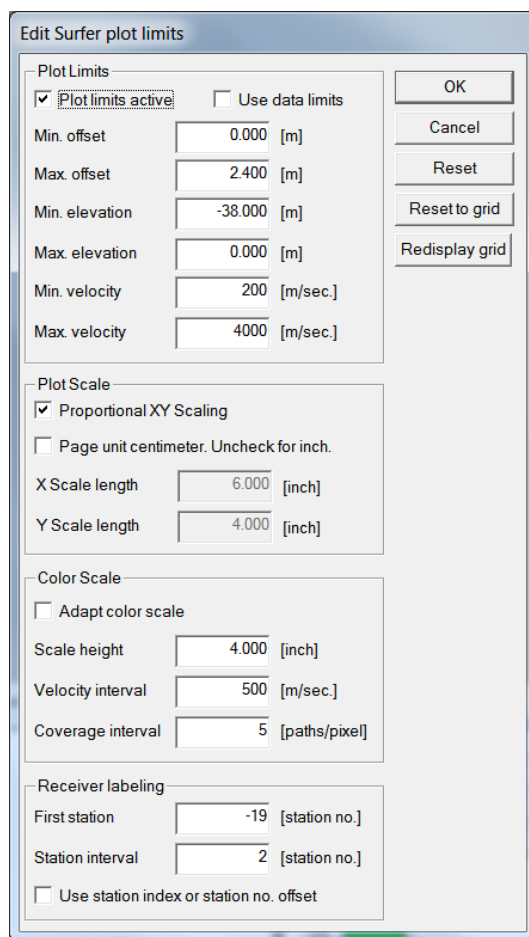
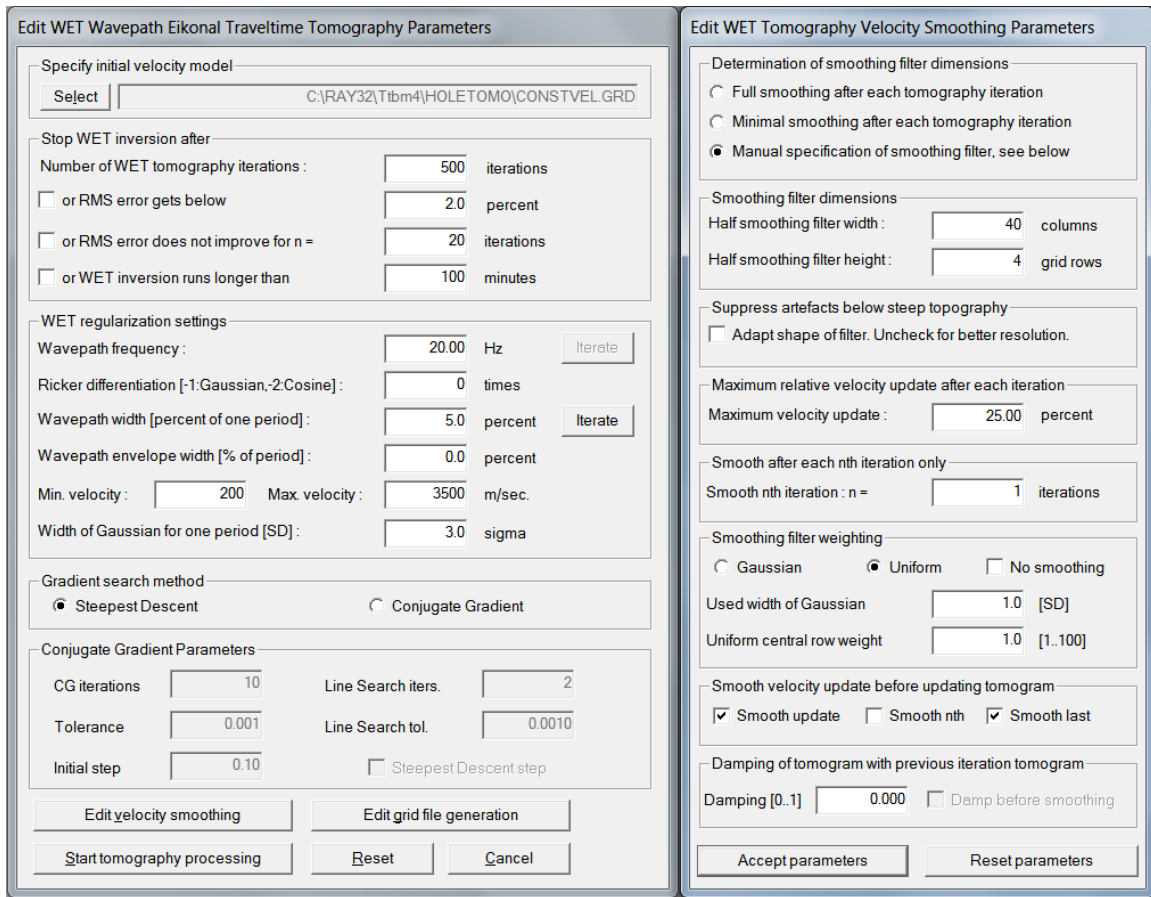

Fig. 10 : *Grid|Surfer plot Limits* dialog. Check box ***Limits active*** and ***Proportional XY scaling***. Edit as shown. Click *OK* button.
Fig. 12 : WET Tomo|Interactive WET main dialog (left). Edit velocity smoothing (right).
- edit *Grid|Surfer plot Limits* as in Fig. 10
- select *WET Tomo|Interactive WET*. Edit main dialog as in Fig. 12 left.
- click button *Edit velocity smoothing*. Edit as in Fig. 12 right. Click button *Accept parameters*.
We set WET **wavepath frequency** to 20Hz and WET **wavepath width** to 5 percent (Fig. 12 left).
We use a **Ricker wavelet** for WET update weighting across the wavepath (**Ricker differentiation** 0 in Fig. 12 left) and **manual WET smoothing** (Fig. 12 right) with smoothing filter **half-width** 40 grid columns and **half-height** 4 grid rows. We uncheck option **Adapt shape of filter**. This manual filter results in horizontal layering in WET tomogram (center). Surfer plot limits as in Fig. 10.